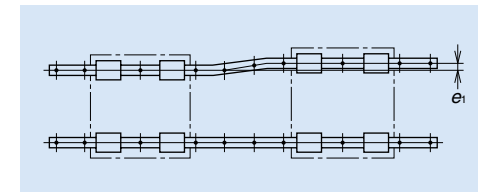

Fig. 10.5
- Figs. 10.5 and 10.6 are representing the mounting errors of e_1 and e_2 . Their permissible values are shown in the description of "5. Installation" of the each series.